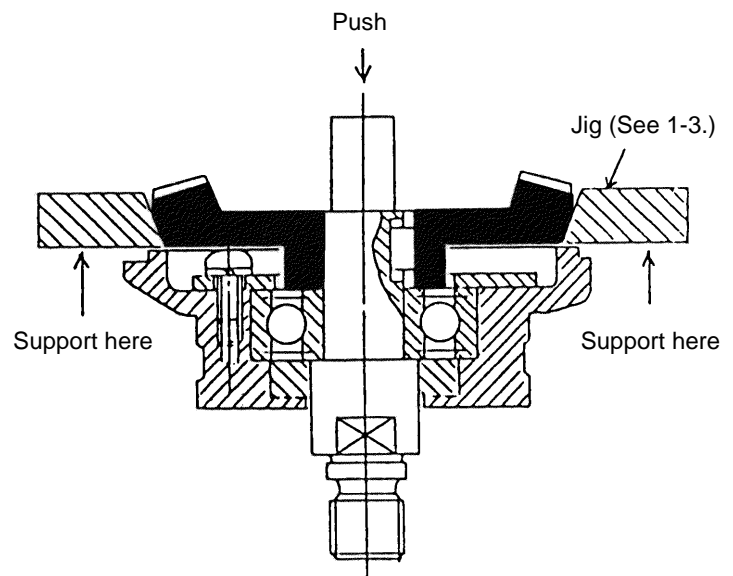

Fig. 2
After the Packing Gland (30) has been removed from the Gear Cover Ass'y (6), support the Gear (21) with an appropriate jig (see below) and push down on the tip of the Spindle (26) with an arbor press as illustrated in Fig. 2 to separate the Gear.